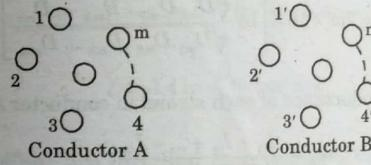

Fig. 4.18.1.
1. Consider a single-phase system consisting of two composite conductors A and B, each having  $m$  and  $n$  number of strands, respectively as shown in Fig. 4.18.1.